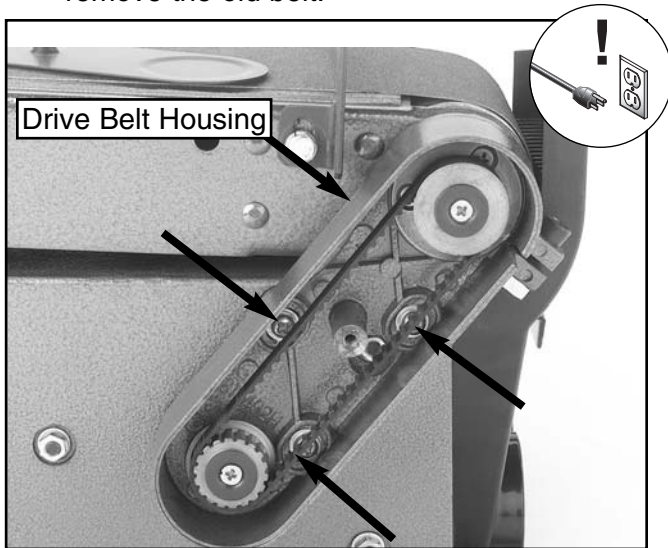

Figure 23. Drive belt housing screws.
3. Loosen the three screws shown in **Figure 23** and slide the drive belt housing down and remove the old belt.